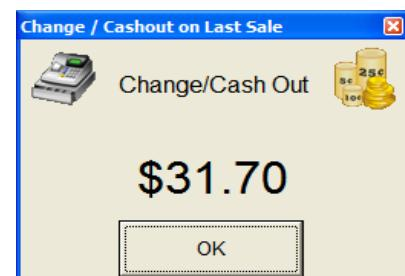

Figure 28
- Select the **OK** button to continue (as shown in Figure 28).